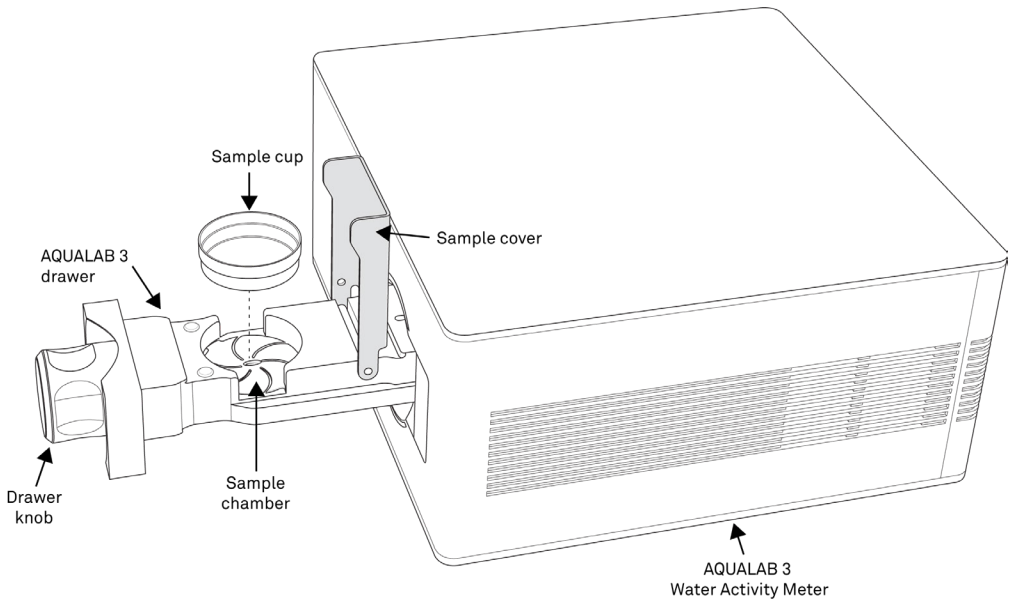

Figure 65 AQUALAB 3 Drawer Pulled Out
9. Insert the sample cup into the AQUALAB 3 sample chamber (Figure 65):